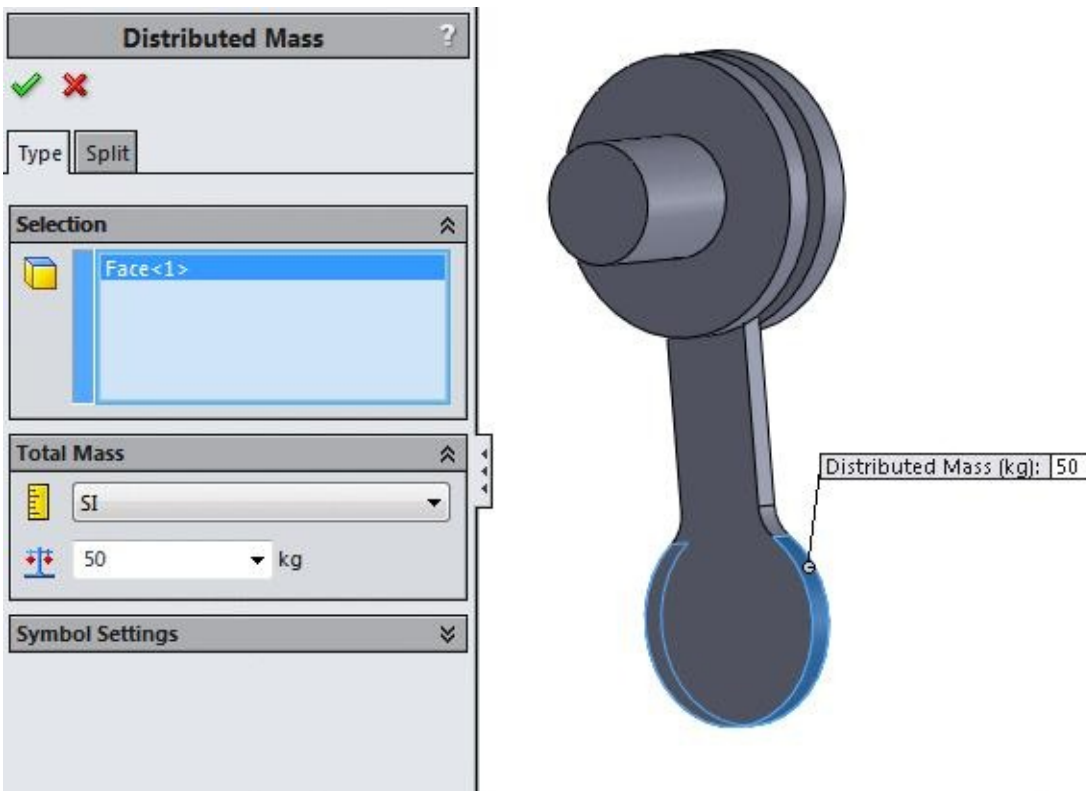

Figure-55. Preview of distributed mass
- Click in the **Distributed Mass** edit box and specify the desired value. Preview of the applied mass will be displayed; refer to Figure-55.